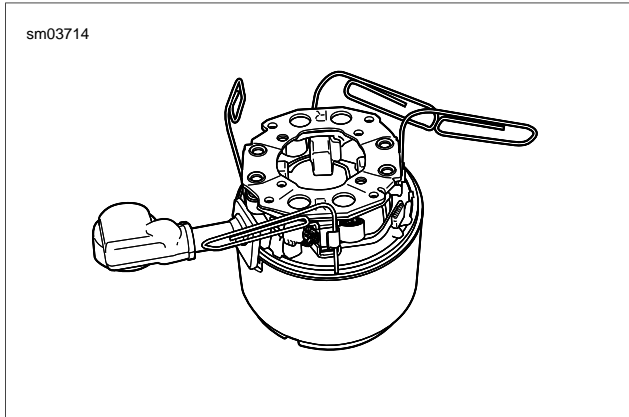

Figure 5-9. Install Paper Clips to Hold Brush Springs
2. Retract all four brushes for armature installation. For good results, obtain four paper clips. Bend free end of each paper clip outward approximately 90°. Then, pushing on inboard side of brush, insert straight end of paper clip between outboard side of brush and inboard side of brush spring. Properly installed, the paper clip contacts the framework of the brush holder to keep spring pressure off the brush. Repeat step on remaining three brushes as shown in Figure 5-9.